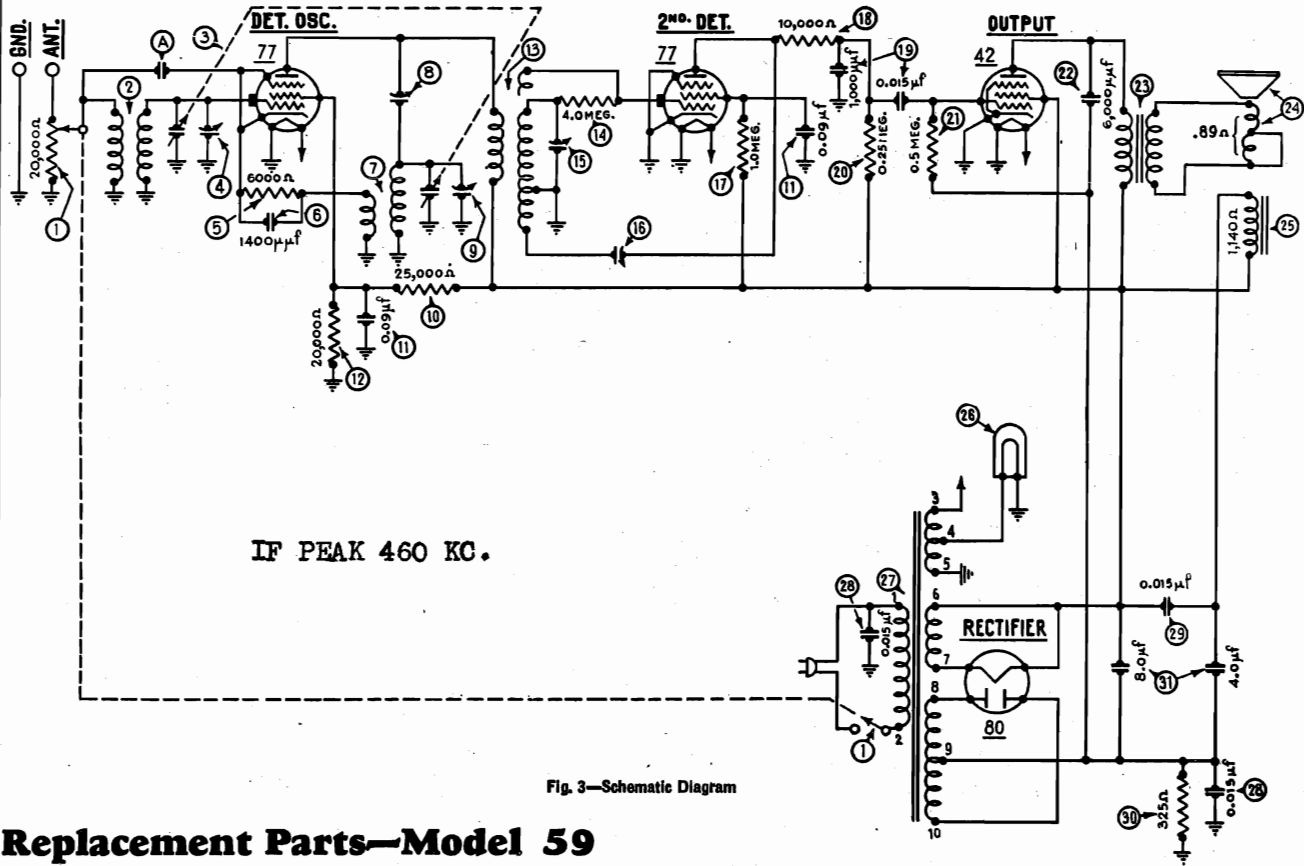

Fig. 3—Schematic Diagram
Referring to Fig. 3, the I. F. primary and secondary condensers ⑧ and ⑨ should be adjusted first. Use an accurate signal generator such as the Philco Model 024. Remove the grid cap clip from the detector-oscillator tube and connect the antenna lead from the signal generator to the cap of this tube. Connect the ground lead from the signal generator to the ground terminal of the set. Connect the primary terminals of the output transformer to an output meter. Set the frequency switch of the signal generator at 460 K.C. (the I. F. of model 59), and turn the switches of the set and signal generator on. Turn volume control full on. Turn the dial pointer on the set to 600, and then adjust the I. F. compensating condensers ⑧ and ⑨ by means of a fibre wrench so that maximum reading is obtained in the output meter. If the needle goes off scale, adjust the attenuator on the signal generator so that a lower reading is obtained.